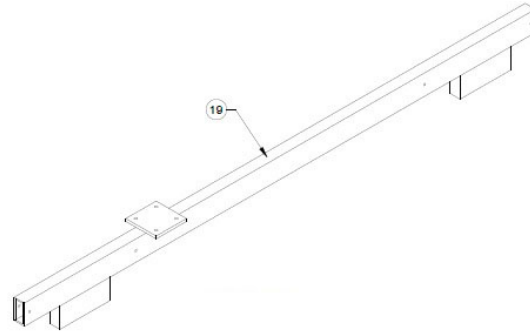

Figure 3: Rectangular Support Tube
2. Place the rectangular support tube (19) on the ground with the 6" x 6" mast plate facing up (see Figure 3). Orient the support tube in the azimuth heading of the satellite of interest. The mast plate should be facing up and toward the leading edge of the azimuth heading.